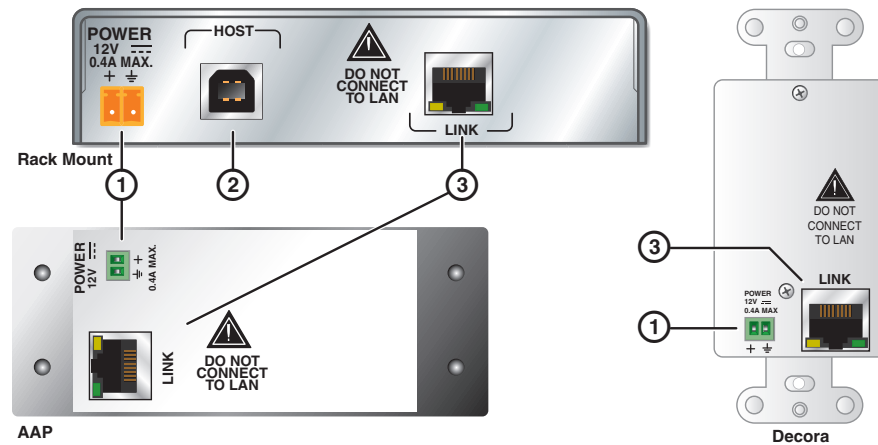

Figure 3. Transmitter (Tx) Rear Panel Connectors
- ④ **Power input connector** — The receiver requires an external supply. Plug the included 12 VDC power supply into this 2-pole, 3.5 mm captive screw connector.
- ⑤ **Link (twisted pair) connector** — Connect the TP cable from the transmitter Link connector (figure 3, item ③) to this RJ-45 female connector.